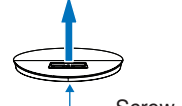

Figure 2
3. Attach the base to the stand and lock screw at the base's bottom (**Figure 2**).